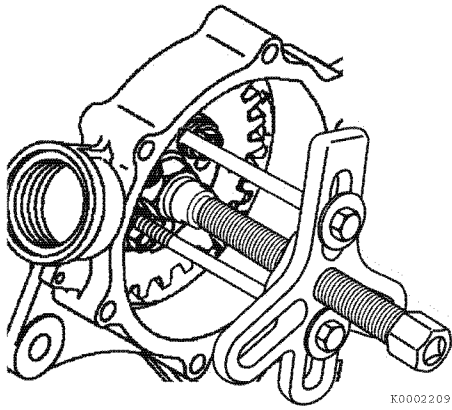

Figure 7-18
- Remove the injection pump drive gear and hub from the injection pump drive shaft as an assembly using an appropriate gear puller (Figure 7-18).